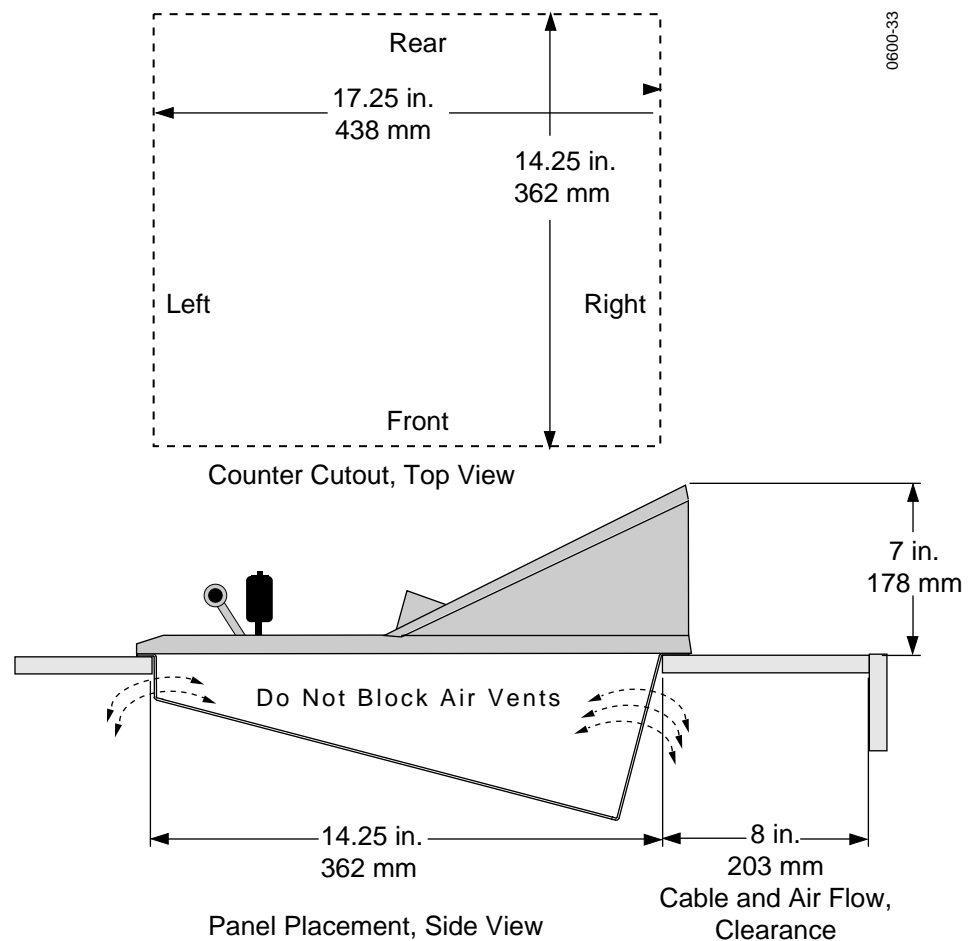

Figure 2-1. Krystal Control Panel Console Mounting Dimensions
- If installing the panel in a cutout, use the dimensions shown in Figure 2-1. Leave a minimum of 8.0 in (200 mm) of clear space inside the console behind the Control Panel for control, signal, and power cables. In a cutout installation, you may wish to remove the screws securing the top of the panel to the base, to allow opening the Control Panel to access the reset switch.